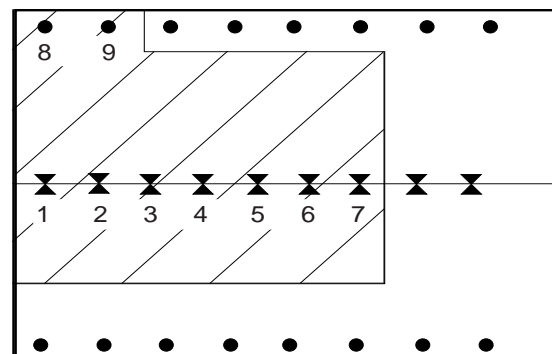

**Figure 18**
3. Attics Protected with Single Directional Attic Sprinklers - For wet systems, calculate the most demanding 5 sprinklers. For dry systems, calculate the most demanding 9 Single Directional Attic Sprinklers or standard sprinklers, whichever is more demanding (see Fig. 18).